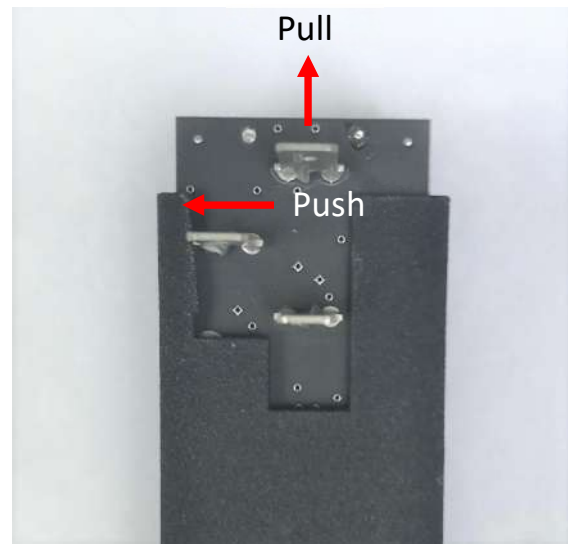

Figure 11 Push case. Pull electronics out.
- Gently push the case to the left to disengage the notch from the terminal and simultaneously pull or push the electronics body out (Figure 11).